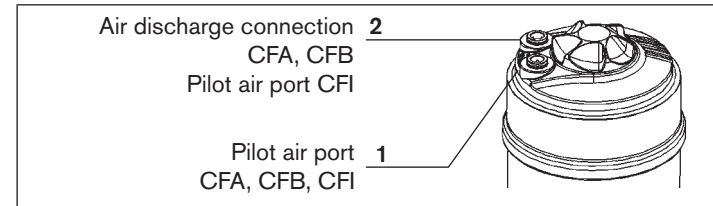

Fig. 6: Pneumatic connection
- Connect the control medium to the pilot air port 1 of the actuator (see “Fig. 6”).
- Plug the silencer into the free air discharge connection 2 (see “Fig. 6”).
- Connect the control medium to the pilot air port 1 and 2 of the actuator (see “Fig. 6”)